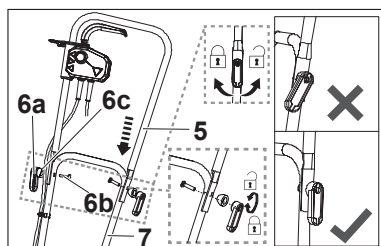

Fig. 4
- Align the holes in the upper handle bar (5) with the holes in the middle handle bar (7). Make sure the on/off switch (2) is on the right side of the handle. Secure the connection with the bolts (6a) and levers (6b) & washers (6c) (Fig. 4).